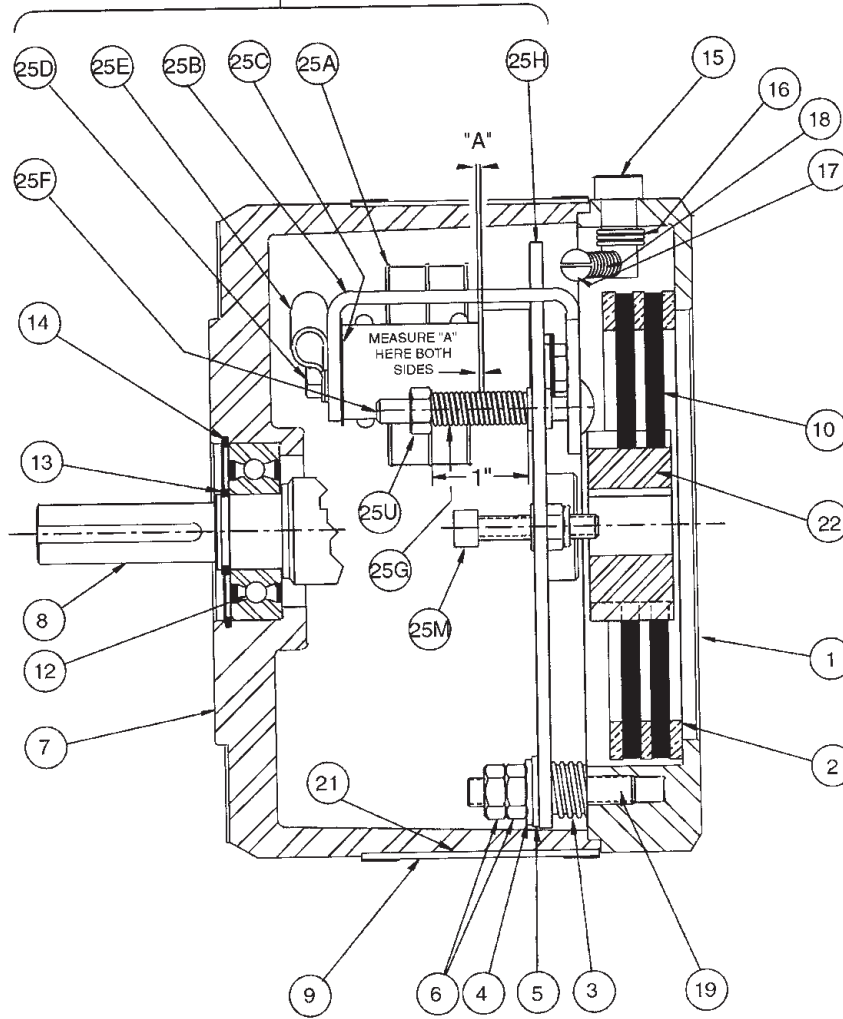

Figure 3
Number in parentheses refer to parts illustrated in Figs. 3, 4, 6, 7 and 8.
Refer to Figs. 3 and 4.
Refer to Figure 3.
When total wear on a rotating friction disc (10) reaches 1/16", replace disc referring to Figs. 3 and 8:
Refer to Figs. 3, 5 and 8.
Refer to Figs. 3, 6 and 8.
4. Reassemble to magnet bracket (25B) using items (25U), (25G), and (25F). Reassemble operator assembly to brake bracket. Set magnet air gap "A" and set torque springs (25G) to 1" as shown in Fig. 3.
Refer to Figs. 3 and 8.
Refer to Figs. 3, 7 and 8.